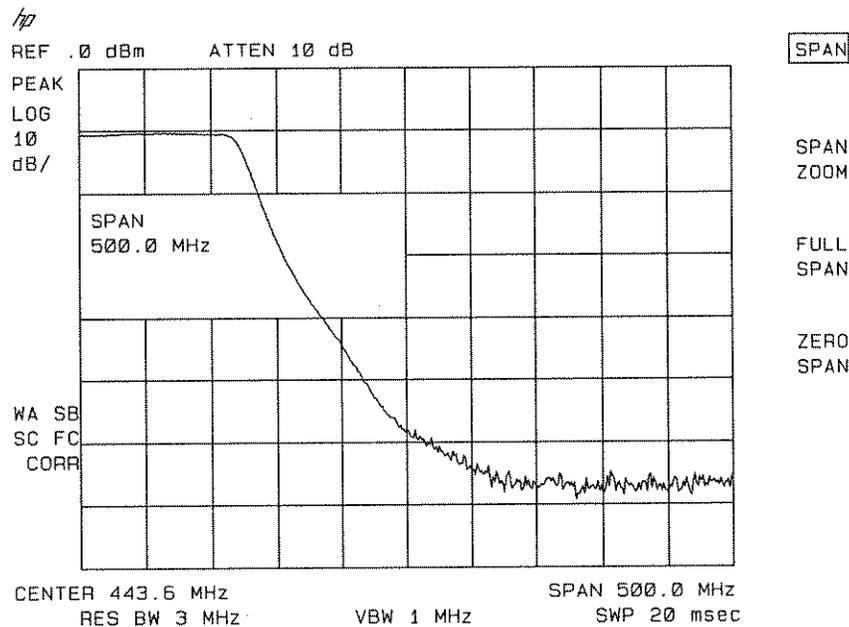

Figure 6-35. Spectrum Analyzer Settings According to the Measurement Requirement
- Since we are only interested in the rejection of the low-pass filter, tune the spectrum analyzer's center frequency so that the rolloff of the filter comprises the majority of the trace on the display (see Figure 6-35).